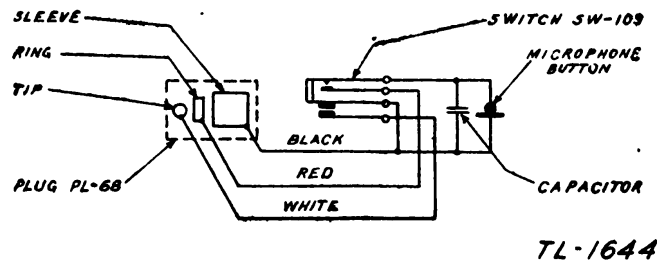

FIGURE 26.—Microphone T-17, circuit diagram.
b. Voice (fig. 25).—Operation on voice is similar to that on tone. The microphone (external) (fig. 26) is in the primary circuit of the transformer in place of the interrupter. Grid bias is controlled by plate current through resistor R_5 and potentiometer R_6 (in the modulator portion of the diagram, fig. 25). The setting of this potentiometer affects the screen-grid potential of the amplifier tube in the transmitter and, in turn, the power output. It is used to reduce the